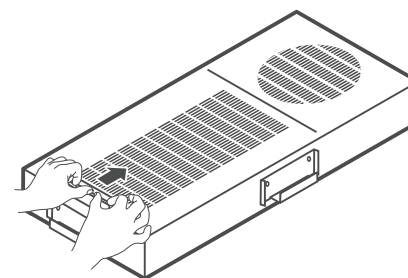

FIGURE 9B:
4. Close speaker door securely by applying pressure outward on the main body of the TCQ. Then slide the door toward the middle of the unit and lock into place (see figure 9B).